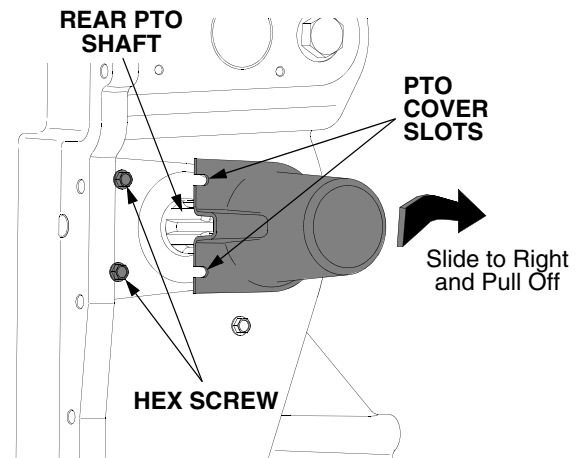

Figure 22
- Loosen the two screws on the left side of the cover. Refer to Figure 22.
- Slide the cover to the right until the slots of the cover are free of the screws and pull the cover off. Refer to Figure 22.
- When finished using the rear PTO, slide the cover fully onto the shaft; then slide the cover to the left until the slots are underneath the screw heads. Tighten the screws to secure the cover. See Figure 22.